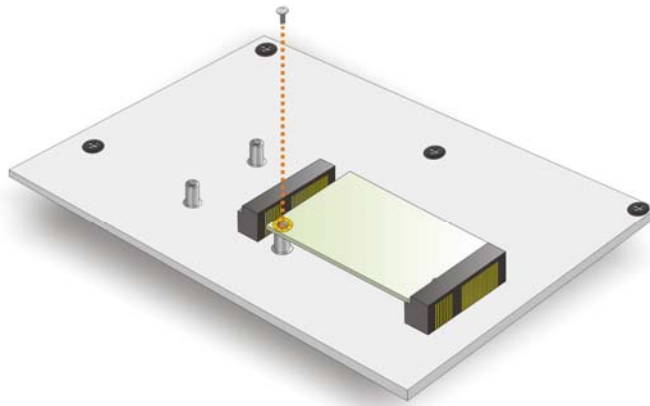

Figure 4-14: Secure the Full-size PCIe Mini Card
Step 4: Secure the full-size PCIe Mini card. Secure the full-size PCIe Mini card with the retention screw previously removed (Figure 4-14).